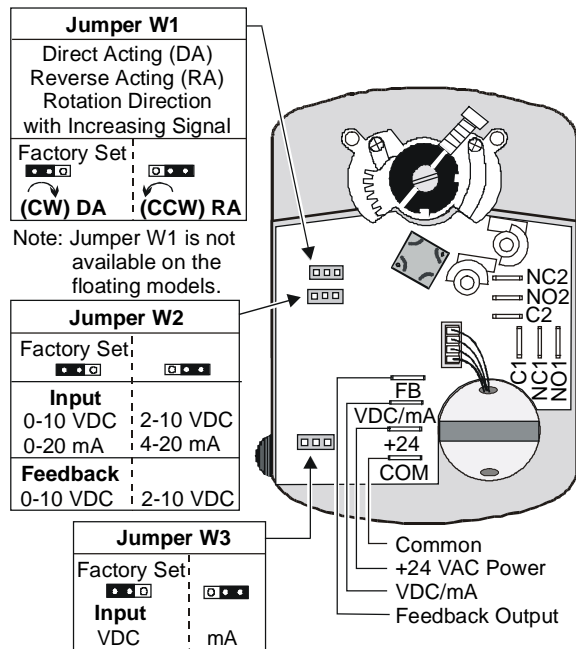

Figure 7: Calibrating the GGx Models
The M9106-GGx-2 proportional actuators are factory set for Direct Acting (DA) mode with Jumper W1 in the DA position. Remove Jumper W1 and place it in the RA position. (See Figure 7.)
The VDC/mA terminal is the control input signal. Jumper W3 must be in the VDC position for voltage input and in the mA position for current input. The FB Terminal is the feedback output. (See Figure 7.)